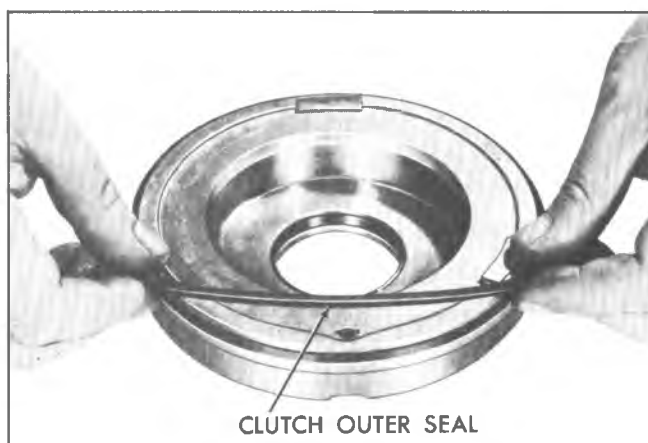

Fig. 85T--Installing Direct Clutch Outer Seal
2. Install a new outer clutch piston seal with lip facing away from spring pockets (fig. 85T).